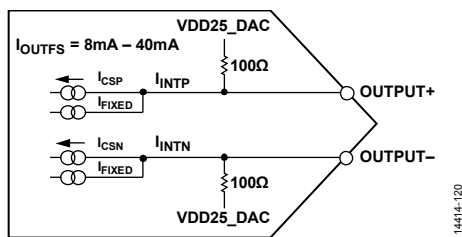

Figure 137. Equivalent DAC Output Circuit
The AD9164 provides complementary current outputs, OUTPUT+ and OUTPUT–, that sink current from an external load that is referenced to the 2.5 V VDD25_DAC supply. Figure 137 shows an equivalent output circuit for the DAC. Compared to most current output DACs of this type, the outputs of the AD9164 consists of a constant current (I_{FIXED}), and a peak differential ac current, I_{CS} ($I_{CS} = I_{CSP} + I_{CSN}$). These two currents combine to form the I_{INTX} currents shown in Figure 137. The internal currents, I_{INTP} and I_{INTN} , are sent to the output pin and to an input termination resistance equivalent to 100 Ω pulled to the VDD25_DAC supply (R_{INT}). This termination serves to divide the output current based on the external termination resistors that are pulled to VDD25_DAC.
The example shown in Figure 137 can be modeled as a pair of dc current sources that source a current of I_{OUT} to each output. This differential ac current source is used to model the signal (that is, a digital code) dependent nature of the DAC output. The polarity and signal dependency of this ac current source are related to the digital code (F) by the following equation: